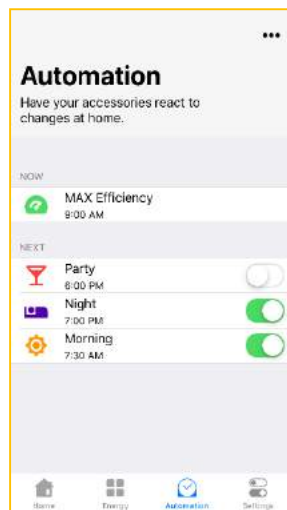

Figure 56
10.13.3. Deactivate software switch  (Fig. 56) to stop execution of the scenario.